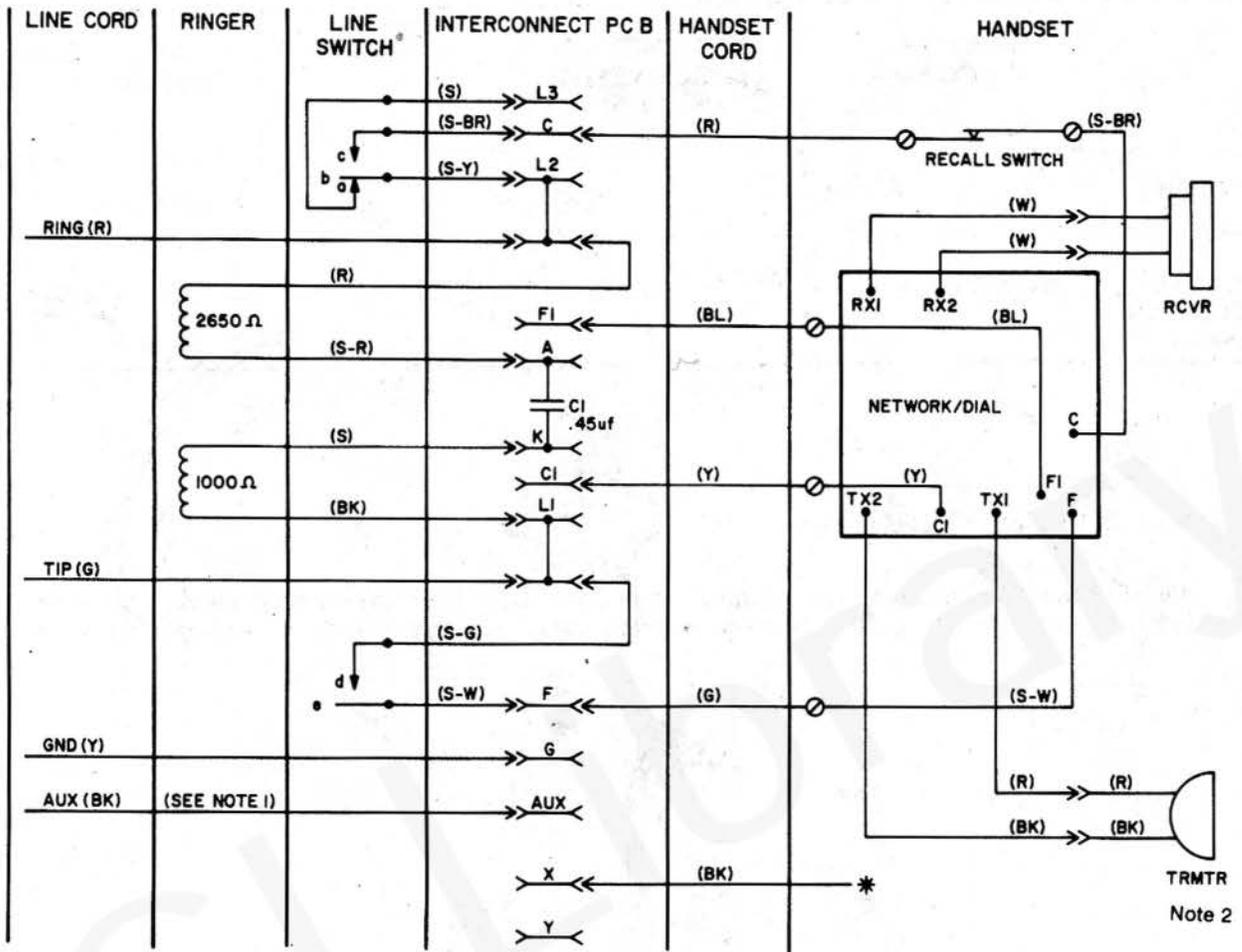

Fig. 5 — Schematic Diagram - QSKE2100A and QSQE2100A Type Telephone Sets
- 4.02 A schematic diagram for the telephone sets is shown in Fig. 5.